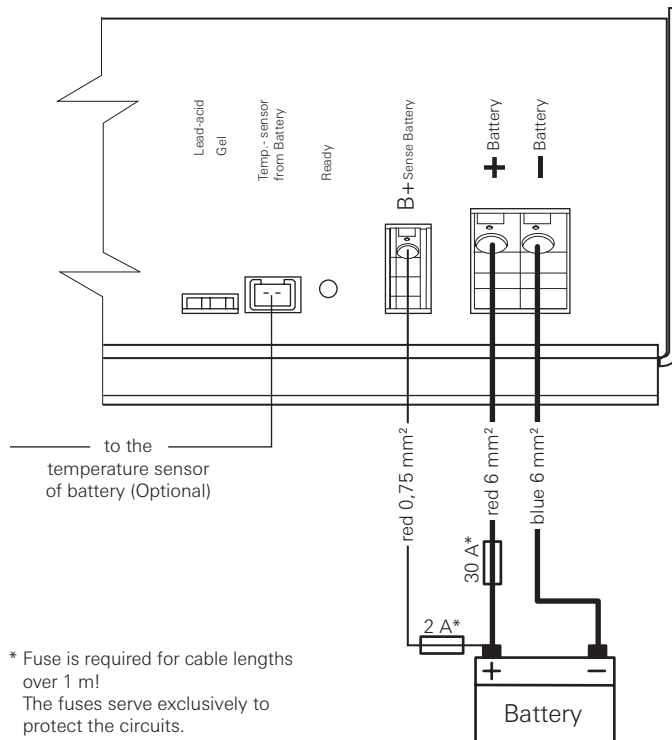

Fig. 6: Connection diagram
- Connect the charger to the battery as shown in the diagram (Fig. 6). Pay attention to the cable cross-sections and ensure correct polarity. Connect the negative charger cable (blue 6 mm²) to the negative terminal of the charger and the negative terminal of the battery.